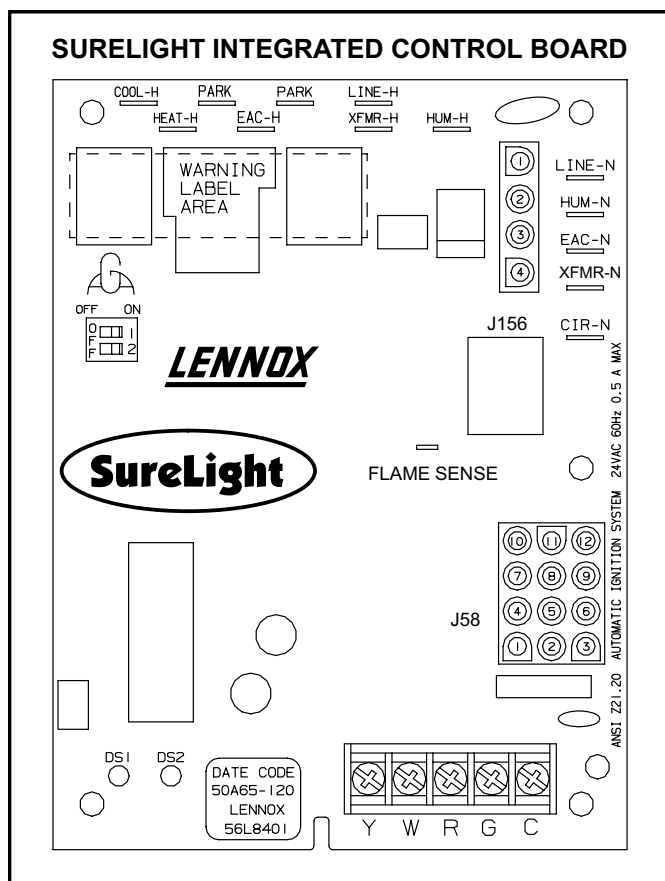

FIGURE 5
The Lennox SureLight ignition system consists of ignition control (figure 5 with control terminal designations in table 1), sensor (figure 10) and ignitor (figure 11). The ignition control and ignitor work in combination to ensure furnace ignition and ignitor durability. The ignition control, controls all major furnace operations. The ignition control also features two LED lights for troubleshooting and two accessory terminals rated at (1) one amp. Tables 2 and 3 show jack plug terminal designations. See table 4 for troubleshooting diagnostic codes. Units equipped with the SureLight system can be used with either electronic or electro-mechanical thermostats without modification. The SureLight ignitor is made of durable silicon-nitride. Ignitor longevity is also enhanced by voltage ramping by the ignition control. The ignition control finds the lowest ignitor temperature which will successfully light the burner, thus increasing the life of the ignitor.
DIAGNOSTIC CODES Make sure to Identify LED'S Correctly. Refer to figures 5 and 8 for control board layout.